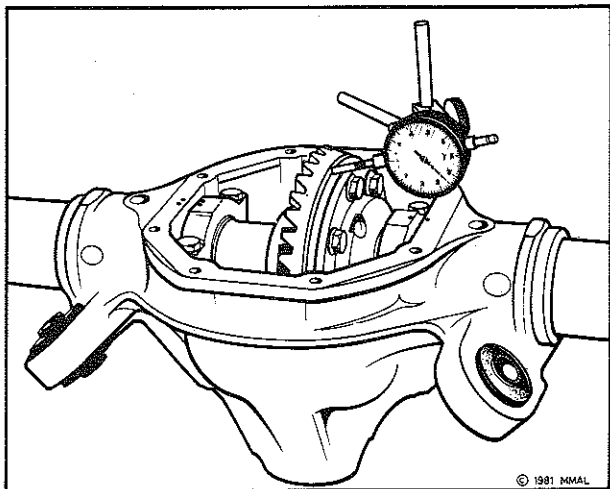

Fig. 17—Checking drive gear runout
(1) Loosen carrier housing cover and drain lubricant from housing. Rotate assembly to have cover facing upward.
(2) Remove cover and clean carrier housing and differential assembly with kerosene, mineral spirits or other similar cleaning fluid.
(3) Visually inspect moving components for wear and chipped surfaces.
(4) Check torque of ring gear and side bearing cap bolts.
(5) Mount a dial indicator and magnetic base on the carrier housing and load the indicator slightly when the plunger is at right angle to the back face of the drive gear, refer Fig. 17.